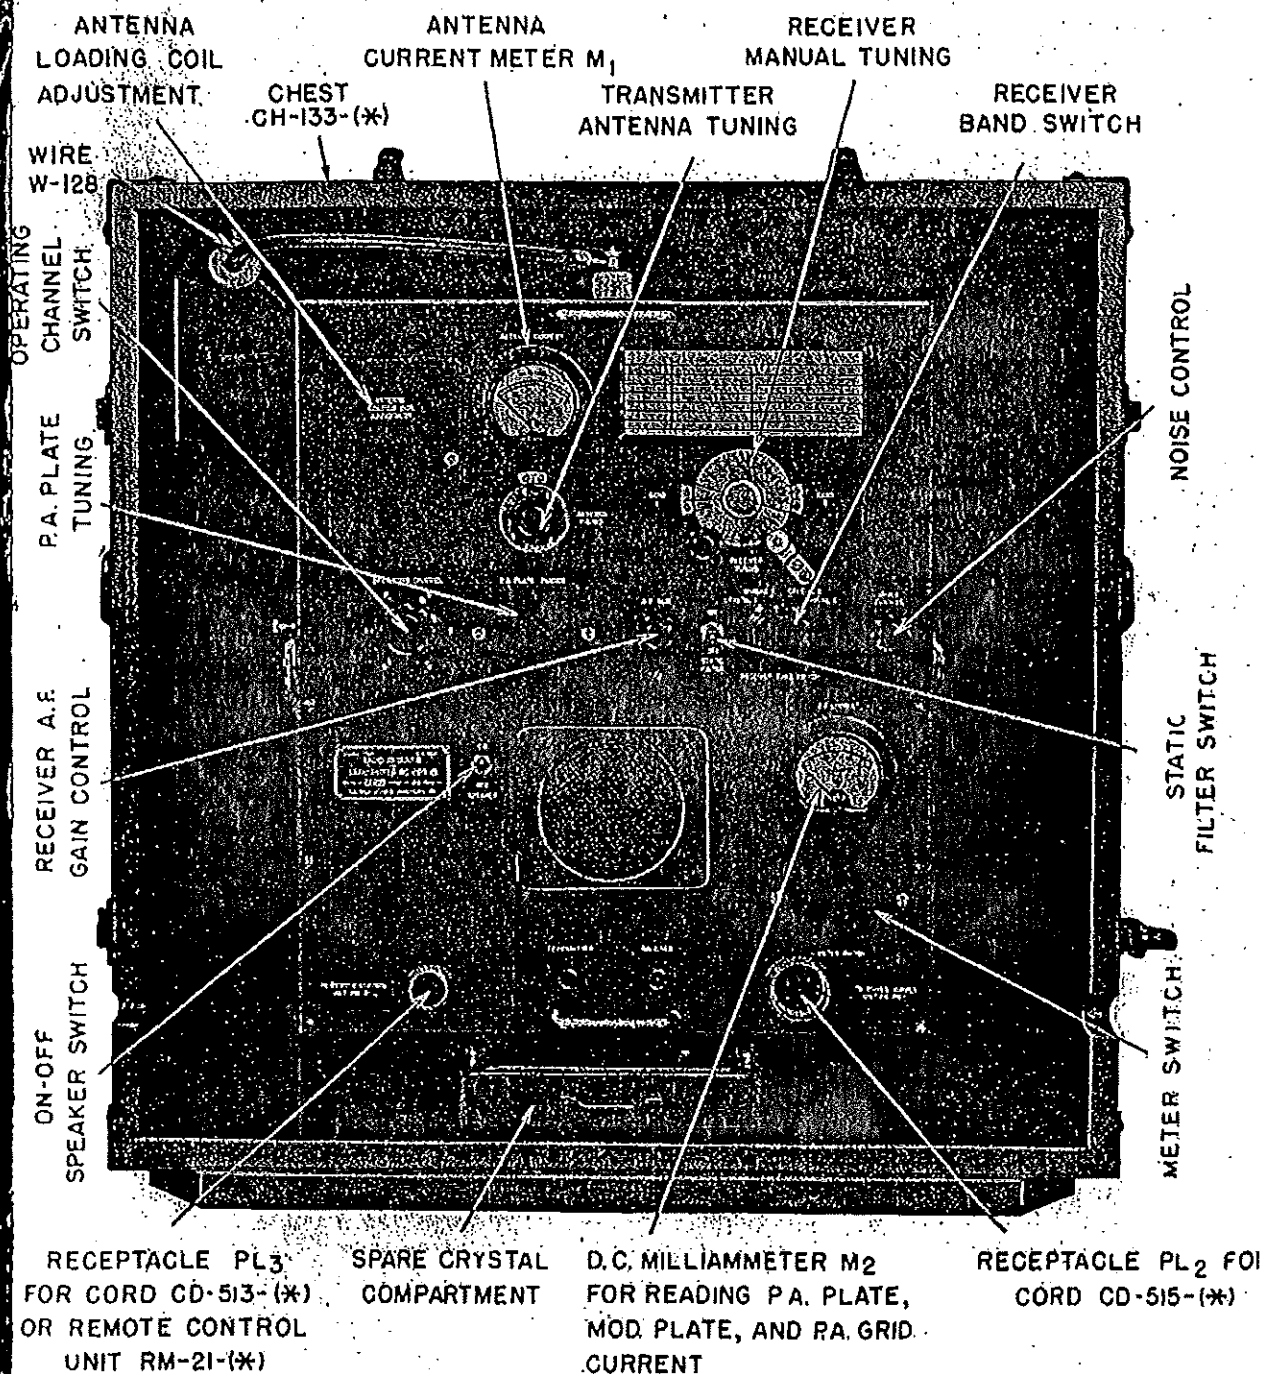

Fig. 3 - Radio and Transmitter BC-669(*) in Chest CH-133-(*).
- a. **Radio Receiver and Transmitter BC-669-(*) in Chest CH-133-(*).** (See Figure 3).—
- (1) This unit consists of Chest CH-133-(*) containing the following:
- (2) **Size of chest.**—28½" wide x 20¾" deep x 29¾" high.
- (3) **Total weight.**—182 lbs.
- (4) The receiver and transmitter are in a sheet steel cabinet which is shock-mounted in the chest. The front of the chest is removable so you can get at the equipment; the front may be put back on while
frequency band, a toggle switch for turning the STATIC FILTER on and off and a control for varying the audio gain. The antenna connection is made by means of a feed-through binding post located on top of the cabinet, and a binding post is also located on the left hand side of the cabinet for making the ground connection. The components on the front panel are shown in figure 3.